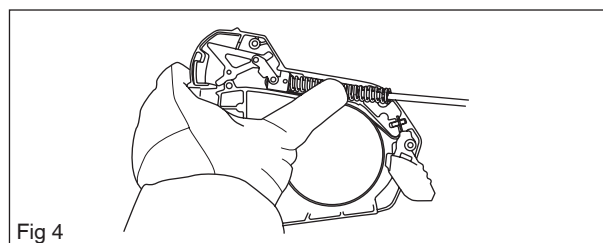

Fig 4
6. Hold one hand on top of the brake spring and press in a small screwdriver into the spring. Carefully bend upwards until the spring is released and it slides onto the screwdriver, see fig. 4.